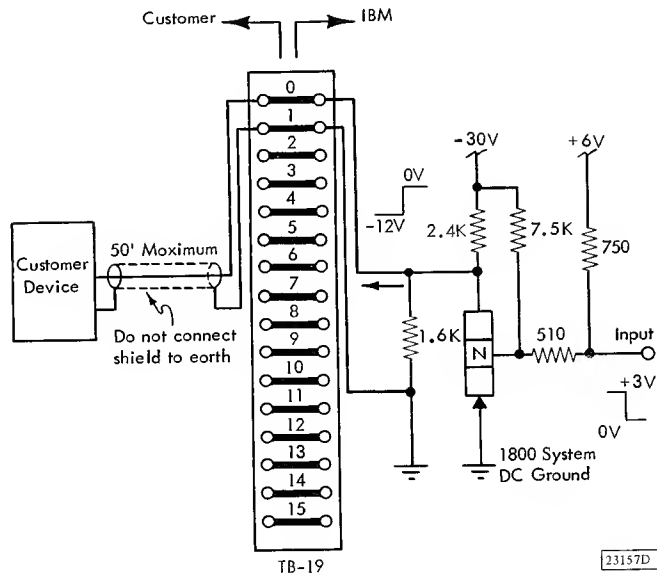

Figure 44. Analog Input "Ready" Signal, Terminal and Circuit Schematic (simplified)
4. Terminal and Circuit Description: Figure 44.